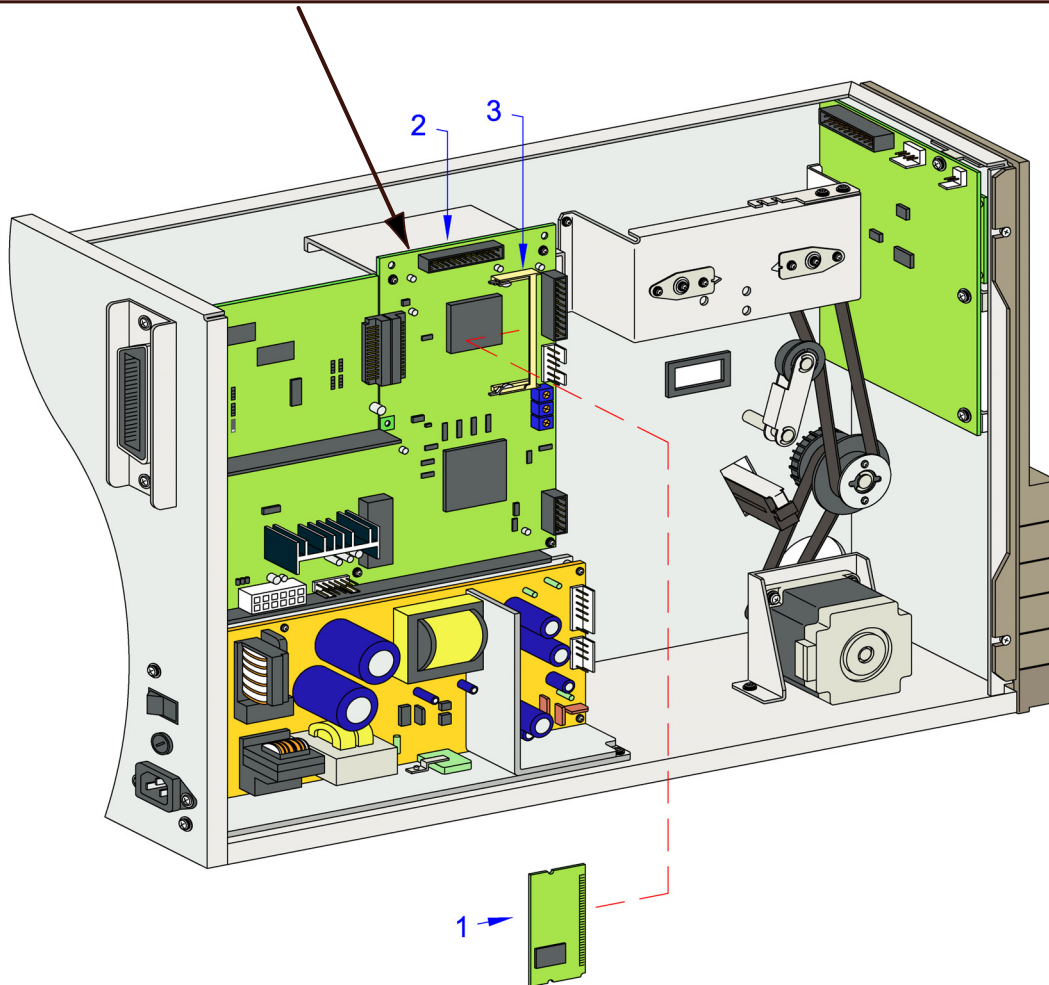

Figure 7-8, Flash Memory Board Replacement
3. Locate memory board (1, Figure 7-8) located on the face of main circuit board (2).
4. Lift upward and downward simultaneously on upper and lower clips respectively to release defective memory board (1) from its connector/bracket (3).